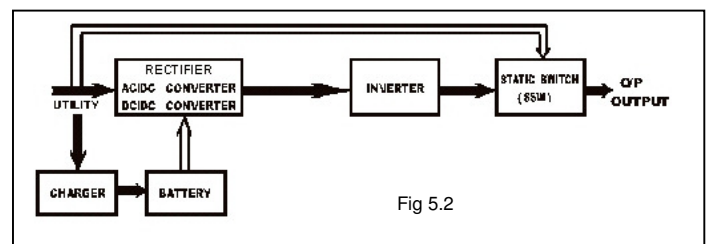

Fig 5.2
2. When Mains is back to Normal, the UPS will turn on the AC/DC converter, turn off DC/DC converter and switch the charger to charging mode. It has the same working principle as figure 5.2.